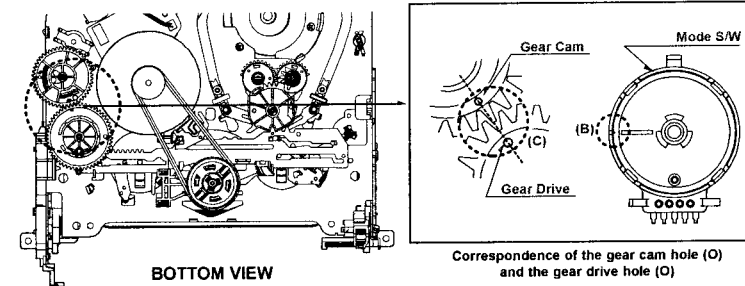
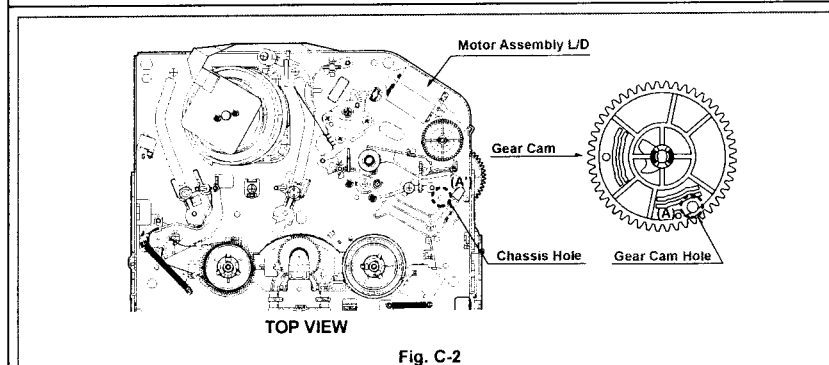

Fig. C-1
Fig. C-2
<p>1) Turn the VCR on and take the tape out by pressing the eject button. 2) Separate both top cover and plate top, and check both the hole (A) of gear cam and the hole (A') of chassis correspond (Fig. C-2). 3) If it is done as in the paragraph 2): Turn the gear cam as in No.2) after mantling the motor assembly L/D. 4) Undo the screw fixing the deck and the main frame, and separate the deck assembly. Check both the hole (A) of gear cam and the hole (A') of chassis correspond (Fig. C-1). 5) Check the mode S/W on the main P.C. board locates at a proper position as in (B) of the Fig. (C-1). 6) Connect the deck to the main P.C. board and perform all types of test.</p>